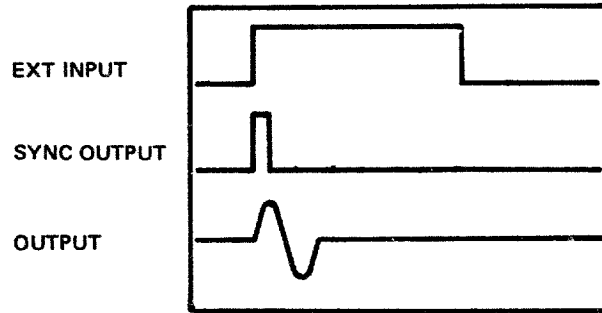

Figure 4-8. Example of correct trigger operation
- Set ext. function generator for output pulse approx 50 μ s wide, rep. rate 10 kHz, baseline zero or more negative, pulse top + 1 V. Adjust 8116A trigger input level for correct trigger. Verify that each trigger pulse generator one complete output cycle (Figure 4-8).